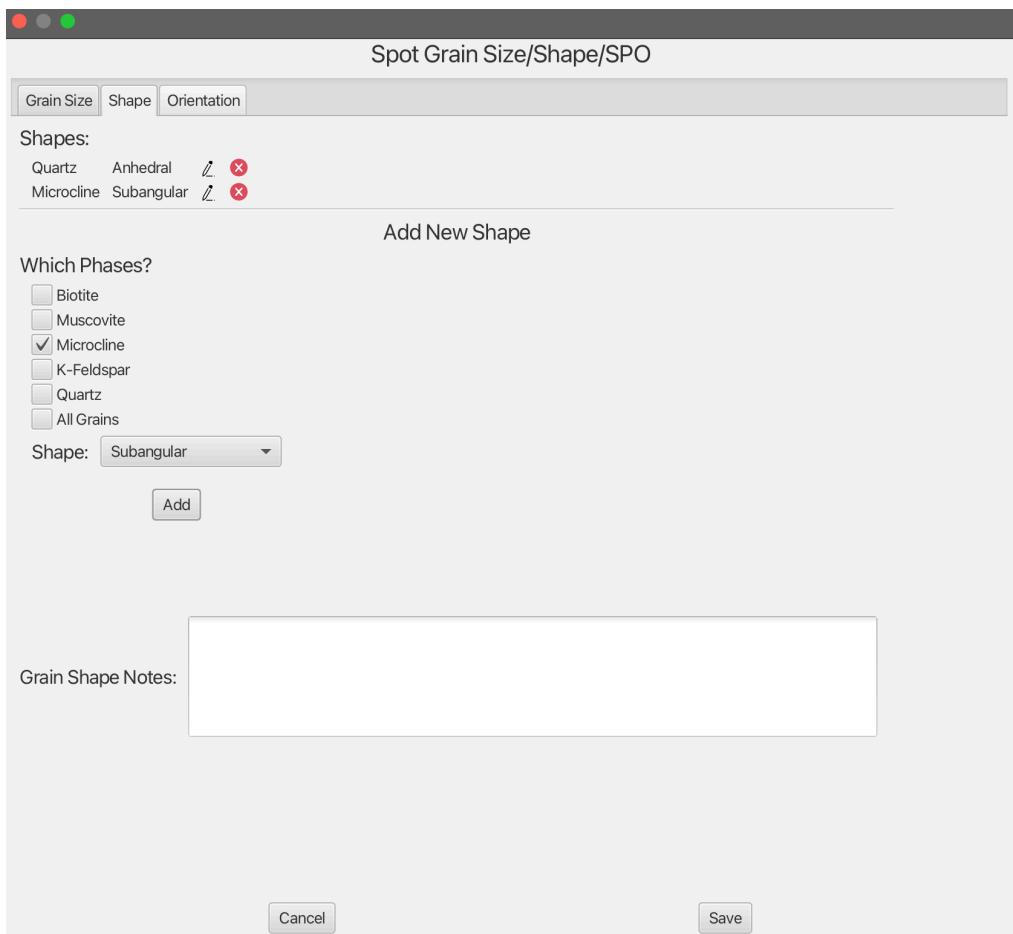

Figure 25: Grain Shape modal showing morphology options.
- **Grain Shape:** Record observed grain morphologies. (See Figure 25.)